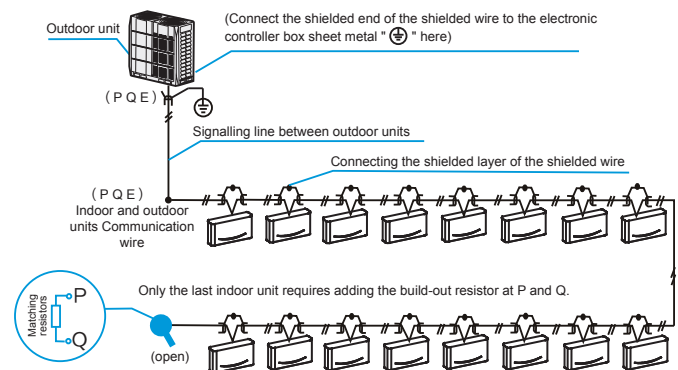

Figure 6.6
- The communication wiring between the indoor and outdoor units should connect one unit after another in a daisy chain from the outdoor unit to the final indoor unit, and the shielded layer must be properly grounded, and a build-out resistor must be added to the last indoor unit to enhance the stability of the communication system (see Figure 6.6).